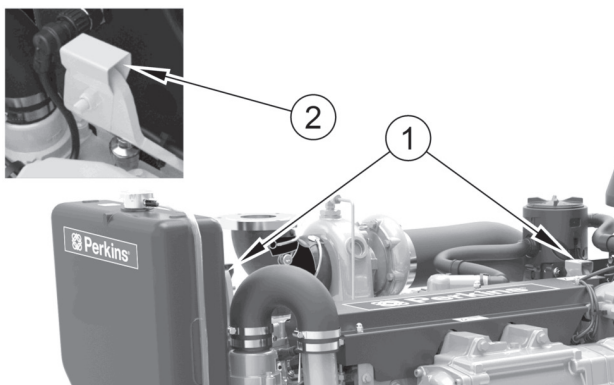

Figure 4
To lift the **engine only**, once separated from the auxiliary drive, use the lifting eyes as shown in figure 4 item 1.